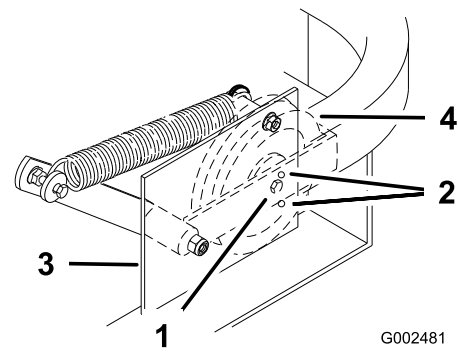

Figure 49
Important: Check and make sure the belt is installed into both the front and rear belt guides (Figure 49).
- Check the belt tension. The spring loaded idler center bolt needs to be near the top alignment hole in left support plate (Figure 49).